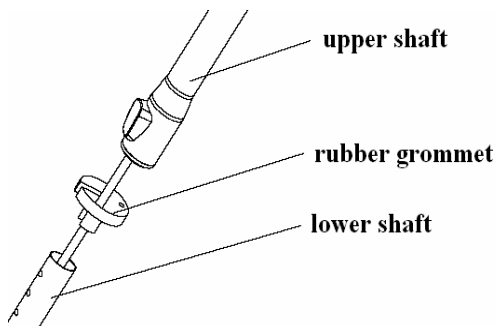

Fig. 1
1. Remove and discard the rubber grommet (packing material) before assembling upper and lower shafts. (Fig.1)